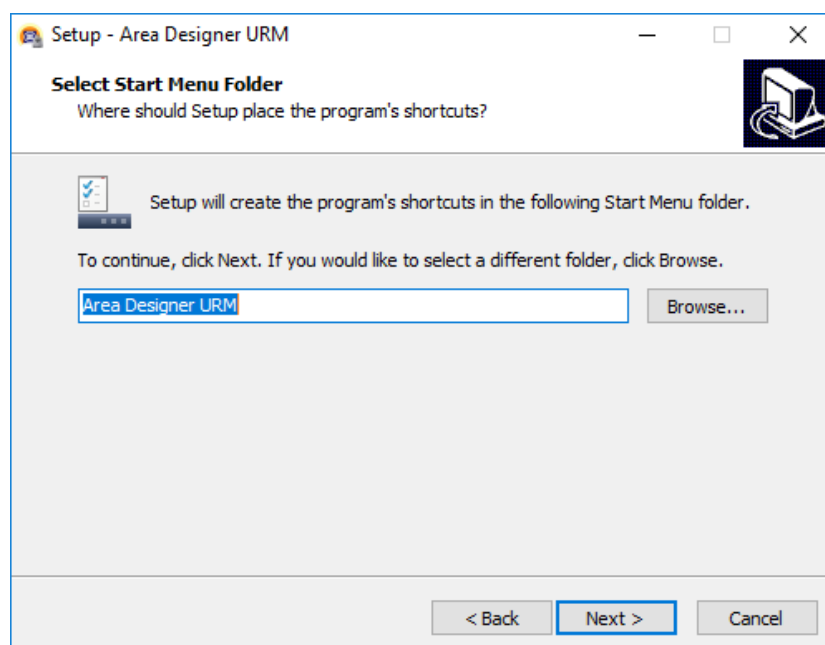

Figure 2-4 Select the program group
6. Once you click “next” as shown in figure 2-4, you will move to the additional task select screen. After selecting the additional tasks to perform during the installation, click next.